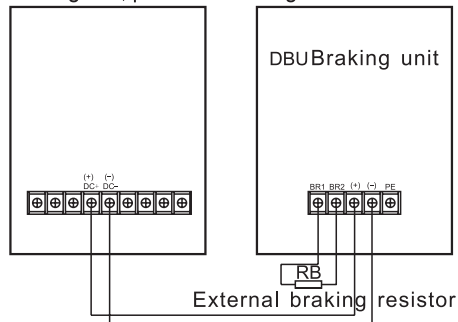

Figure B-2 Connection of braking unit
**B.2.2.2. Connection of Braking unit, please refer to figure B-2.**